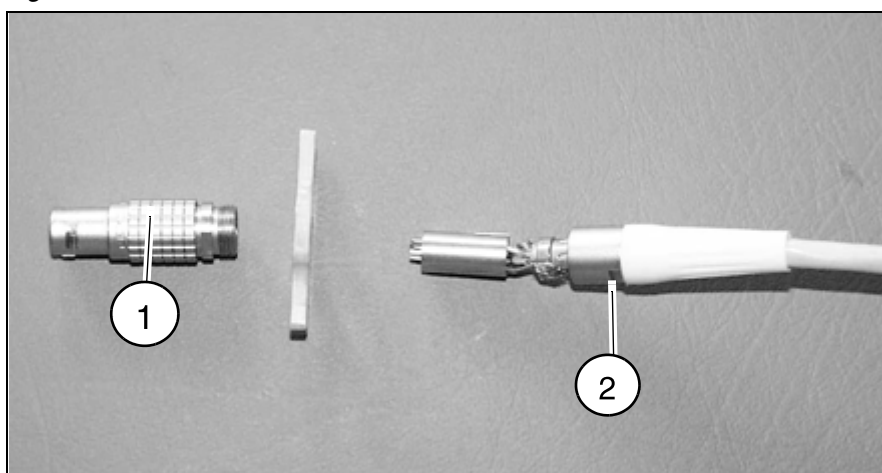

Fig. 57: Connector 1
- Unscrew the connectors: Hold the part (1/Fig. 57 / p. 53) and turn part 2 (2/Fig. 57 / p. 53).